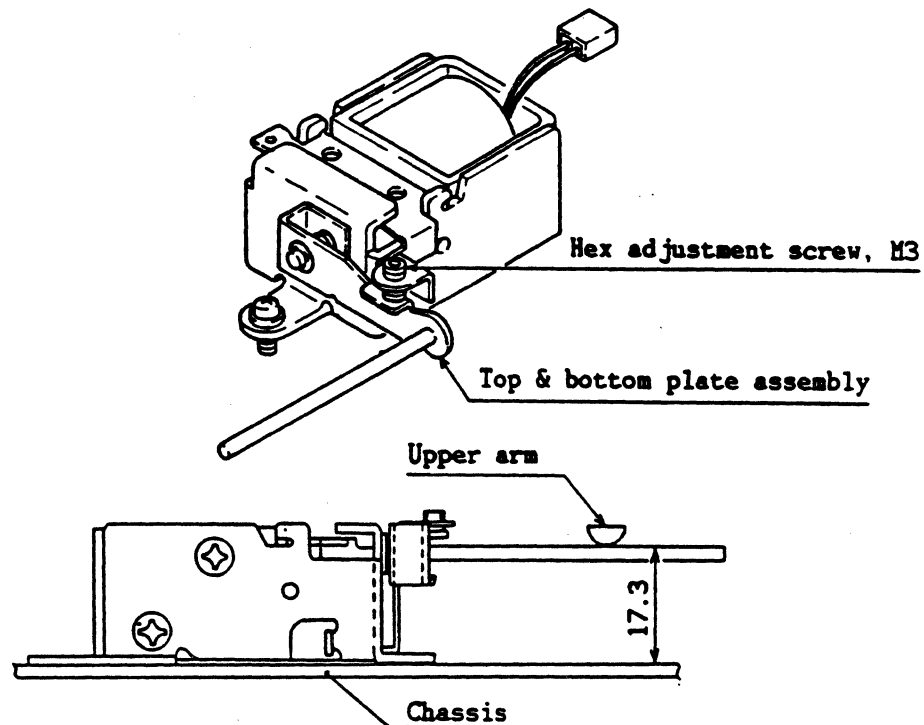

Figure 4-26 Head Load Height Adjustment
1. Remove the shield cover (item 44).
2. Remove the mounting screws from the main circuit card and lift up the circuit card (item 43), unplug all connectors at the main circuit card assembly and remove the card.
3. Remove the screws holding the main circuit card shield plate and remove the plate (item 23).
4. Remove the two screws holding the head load solenoid bracket and remove the solenoid assembly (item 32) from the chassis.
6. Refer to Figure 4-26. Use the head load adjustment screw to adjust the height of the chassis and top of the vertical rod to 0.68" (17.3mm) and temporarily tighten.